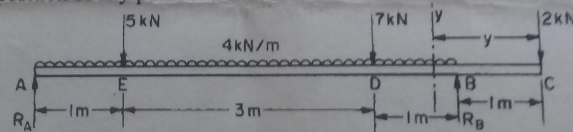

Fig. 6
- b. Draw the S.F. and B.M. diagrams for the beam loaded as shown in Fig. 6, and determine (i) the position and magnitude of the maximum B.M., and (ii) the position of any point of contraflexure.